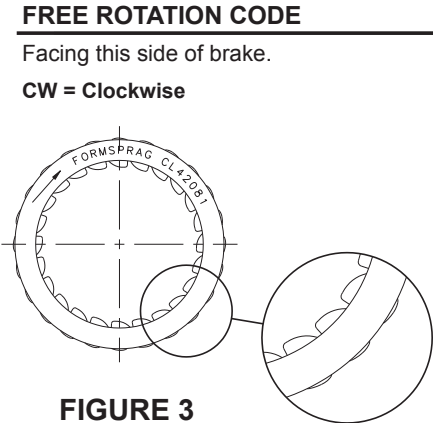

FIGURE 3
2. If necessary, press bearing (6) into cover plate (7) until it bottoms on the borestep. Install retaining ring (4) in cover plate (7).
3. If necessary, press needle bearing (28) in pressure plate (29) bore.
4. If reassembly of the outer spline subassembly is necessary, press needle bearing (12) into the outer spline until it bottoms on the borestep. Carefully install sprag bearing (10) into outer spline (11).
5. With the shaft in an upright position on a flat surface, carefully place outer spline subassembly over shaft (13) making sure sprag bearing (10) slides freely over shaft (13).
6. Hold outer spline (11) stationary and verify that the free rotation direction of shaft (13) is correct. **Refer to Figure 3 for proper free rotation direction.**
7. After rotation direction is verified to be correct, install bearing (9) between outer spline (11) and shaft (13).
8. Install two retaining rings (5) on shaft (13). Install retaining ring (8) in outer spline (11).
9. Press shaft assembly (14) into bearing (6) until the shaft bottoms on the bearing shoulder. Bearing (6) inner race must be supported during this operation. Install retaining ring (5) on shaft (13).
10. Install back-up rings (24 & 26) on piston (23) toward spring pockets.
11. Install o-rings (25 & 27) on piston (23). Be sure o-rings are flat and all twists removed. **NOTE: Be careful not to scratch or mar piston.**
12. Lubricate piston (23) with clean type fluid used in the system. Carefully press piston (23) into pressure plate (29). Be sure piston (23) is rotated so the threaded holes are aligned with the through holes in spring plate (21).
13. Install springs (22) according to spring pattern and color recorded during disassembly. Different colored springs must be positioned in a symmetrical pattern. Contact ZF Off-Highway Solutions Minnesota Inc. if you have questions regarding spring pattern.
14. Affix case gaskets (20) to pressure plate (29) and spring plate (21).
15. Place the unit on a press. Depress and install four socket cap screws (19). Torque cap screws (19) 47.5-54.2 N·m (35-40 lb·ft). A suitable holding fixture is useful to hold brake in position. **NOTE: Apply two drops of Loctite #242 to threads of cap screws (19).**
16. Install stator discs (11) and rotor discs (10) in the same stacking arrangement as recorded during disassembly.